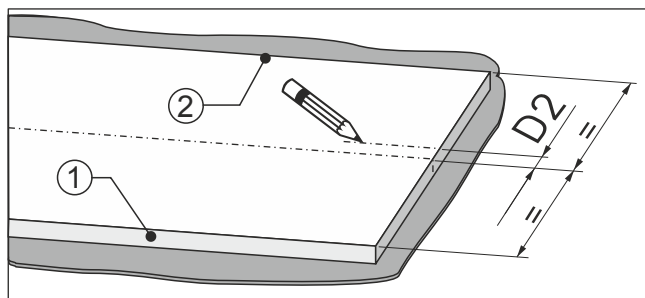

Fig. 93
- ▶ Measure dimensions Fig. 93 (D2) from the centre of the front of the unit towards the door hinge side Fig. 93 (2).